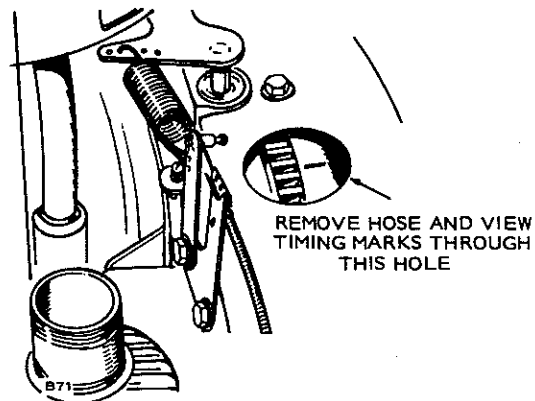

FIGURE 10-29. BF-BG FLYWHEEL TIMING HOLE
2. Remove air intake hose from shroud, Figure 10-29.